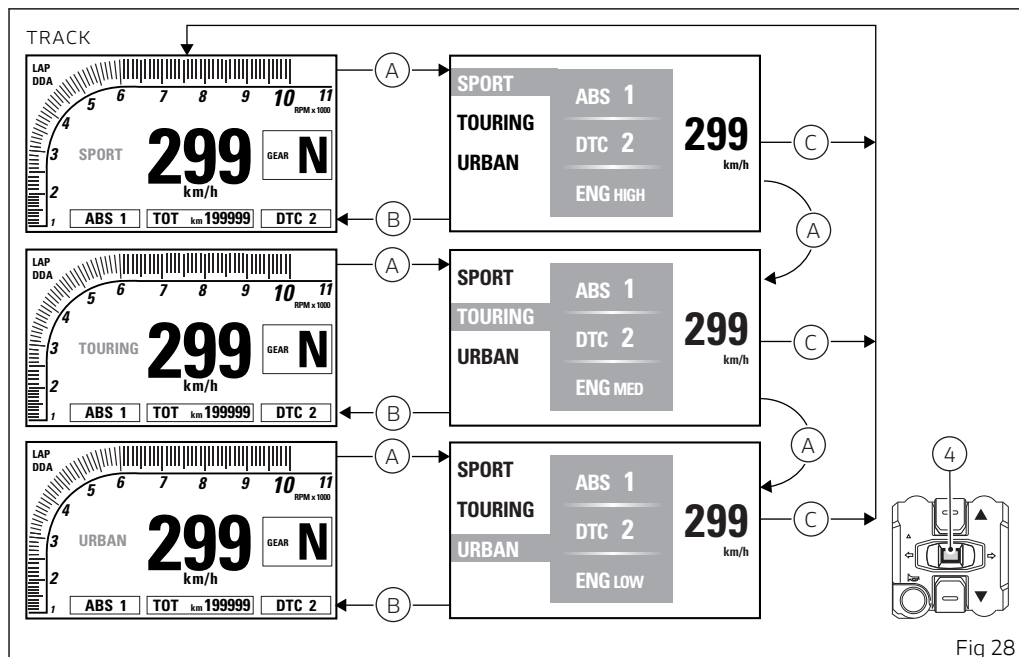

Fig 28
The displayed information are the settings stored in every single Riding Mode. The stored settings may be the factory ones (Ducati default settings) or the ones customized by the owner. Any time the CONFIRM MENU button (4) is pressed, you highlight a riding mode and the associated parameters are displayed (A, Fig 28).
Once the desired riding mode is highlighted, confirm the selection by holding down the CONFIRM MENU button (4) for 2 seconds: the new riding mode selection is saved and the standard screen is displayed (B, Fig 28).
Once the desired riding mode is highlighted, if the CONFIRM MENU button (4) is not pressed within 10 seconds, the new riding mode selection is not stored and the standard screen is displayed (C, Fig 28).